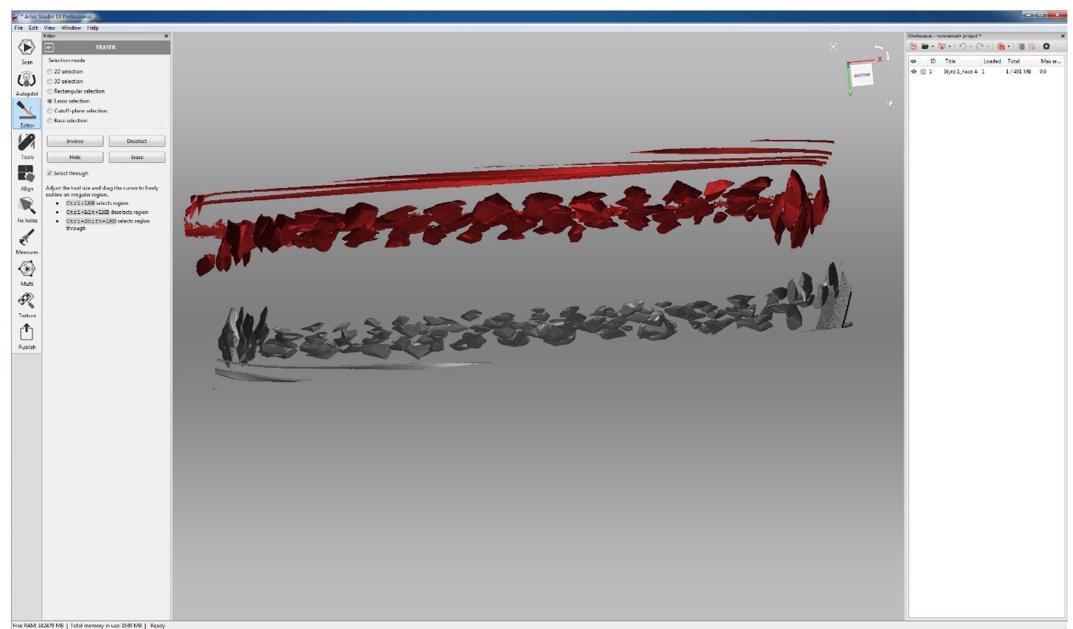

Fig. 24: Selected Face B (red).
28.1 Rotate the model with the left mouse cursor in the 3D View Panel so that both faces are parallel to each other like shown in Fig. 24.
28.5 Press and hold Ctrl while pressing and moving the left cursor over the material from Face B. Selected areas will be highlighted in red (Fig. 24).